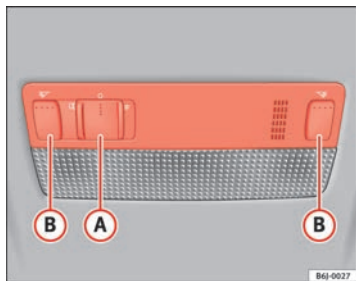

Fig. 57 Front reading light
Press the corresponding button (B) ⇒ fig. 57 to switch on the reading light.